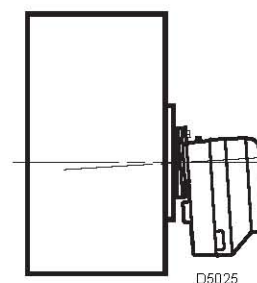

Fig. 5
- Open the boiler door, insert the flame tube (6) (with the slits turned towards the top) on the burner blast tube (7) and fix it with the nut (8).
- After installation ensure that burner is lightly inclined as in fig. 5.